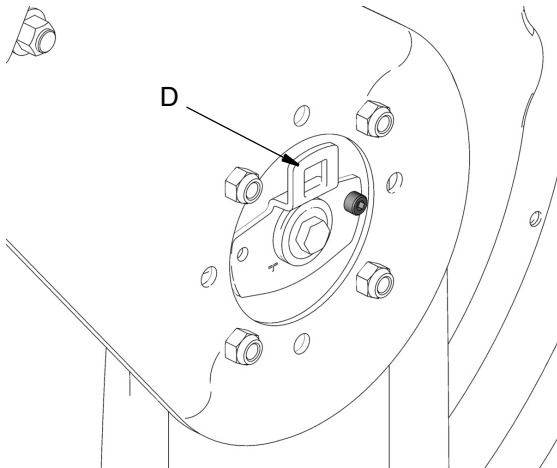

FIG. 23
6. Remove ratchet (C) from opening (D) (FIG. 23).